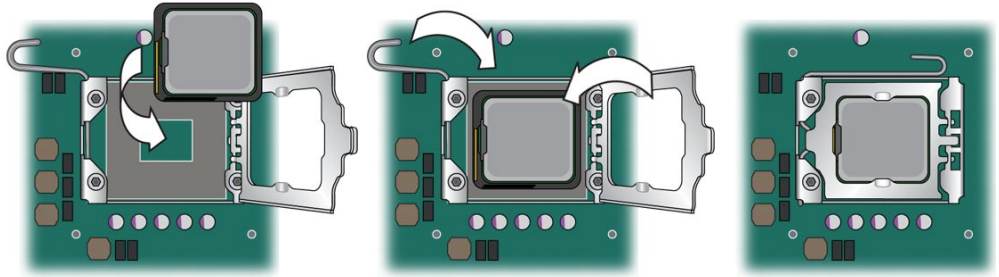

FIGURE 3-33 Installing the CPU
- 14 **Ensure that the CPU socket retainer lever and hinged socket retainer are in the fully open (upright) position (see Figure 3-33).**